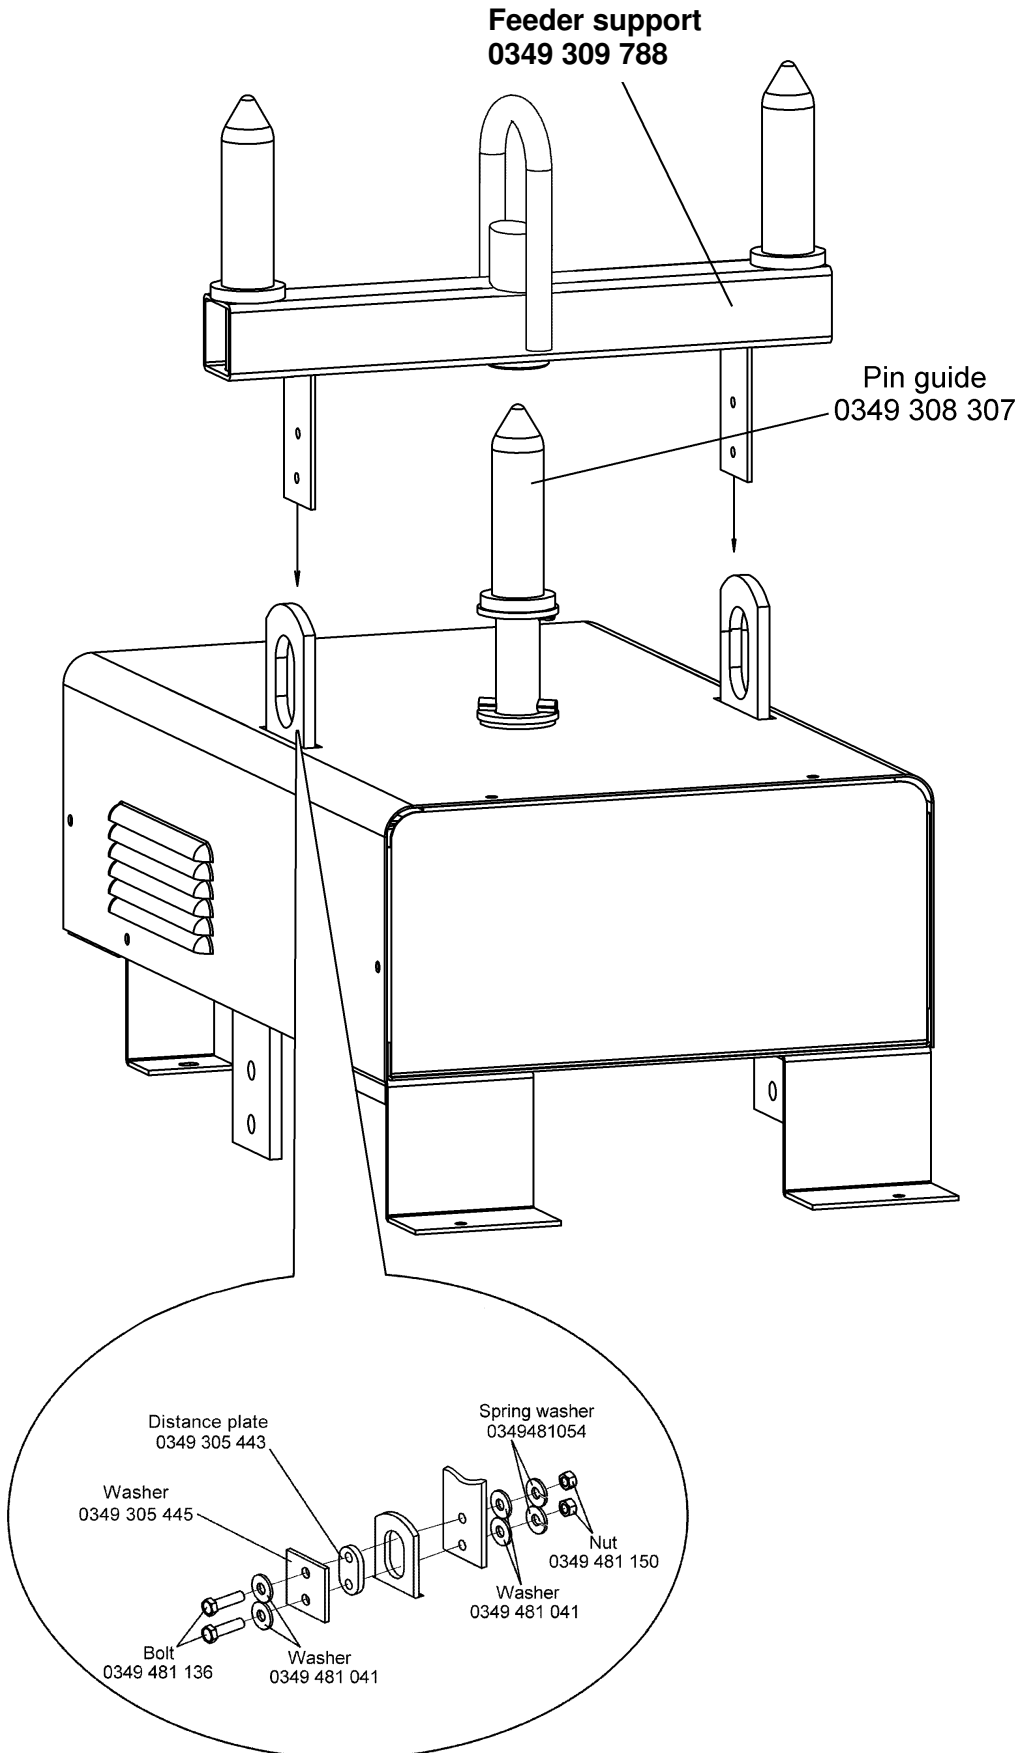

Fig. 8. Mounting of the feeder's carrier.
* Coupling should be made loosely until assembling according to fig.8. Once completed, they should be finally tightend.